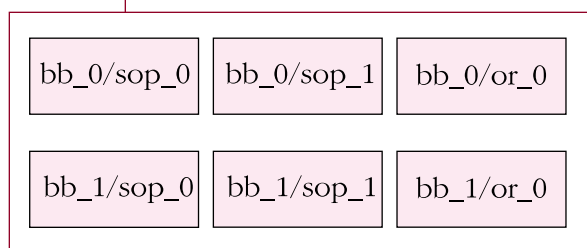

Figure 6
Next, the register arrays can be placed in a manner that aligns them with the multiplexers. In the XC8100 architecture, a single D-type flip-flop (FD) requires two adjacent CLCs in the same row, since it uses the cascade connection between the CLCs. There are four registers, requiring eight CLCs, associated with each 4-to-1 multiplexer. Thus, a total of eight registers (16 CLCs) are associated with the pair of multiplexers located in the 2x3 cell area shown in **Figure 6**.